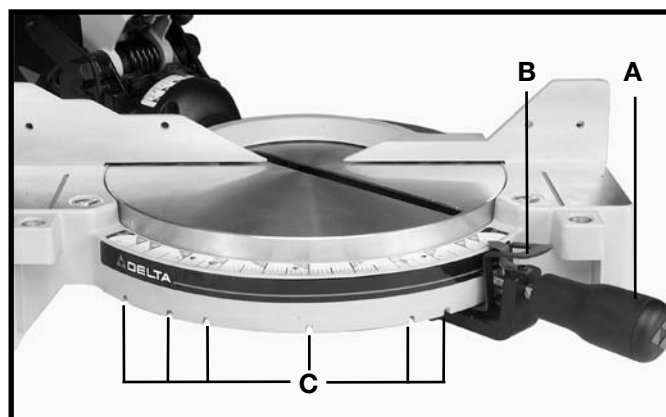

Fig. 18
The miter saw will cut any angle from a straight 0 degree cut to 47 degrees right and left. Loosen the lock handle (A) Fig. 18 one or two turns. Depress the index lever (B), and move the control arm. Tighten the lock handle at the desired angle.
This tool is equipped with positive stops at the 0, 22.5, 31.62, and 45 degree right and left positions. Simply loosen lock handle (A) Fig. 18, and move the control arm until the bottom of the index lever (B) engages into one of the positive stops (C). **Tighten the lock handle (A).** To disengage the positive stop, depress index lever (B) and move the handle.
IMPORTANT: ALWAYS TIGHTEN LOCK HANDLE (A) FIG. 18 BEFORE CUTTING.